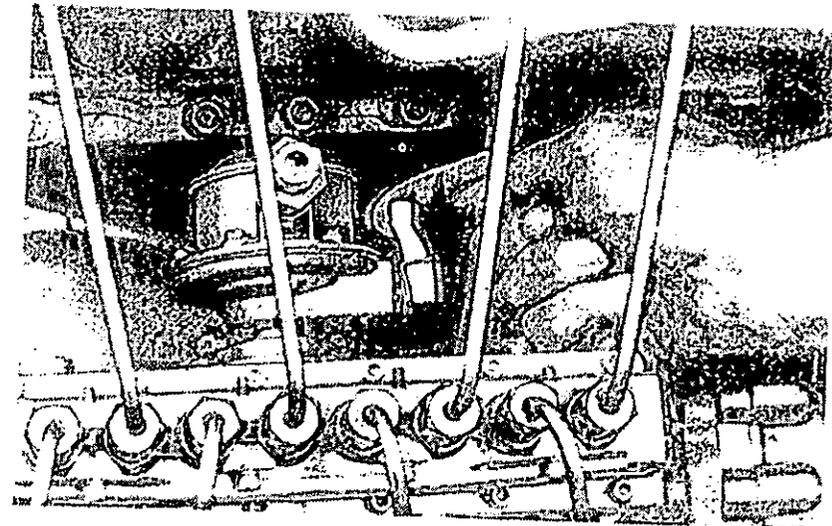

Fig. 21 Fuel lift pump priming lever
- 3 Operate the priming lever of the fuel lift pump, fitted on the side of the fuel injection pump (see fig. 21). If the fuel lift pump drive cam is on maximum lift, it will not be possible to operate the priming lever and the crankshaft must be turned through one revolution.